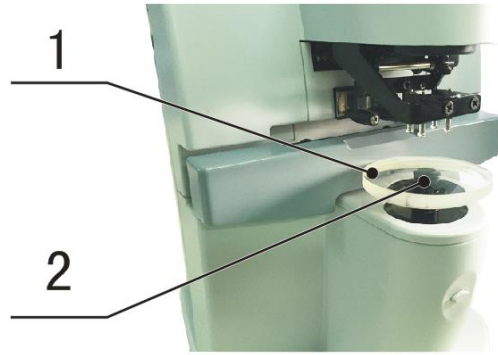

Figure 6-3
1. Place the lens center on the nosepiece with the (part 2 in follow figure 6-3) convex side up (part 1 in follow figure 6-3).